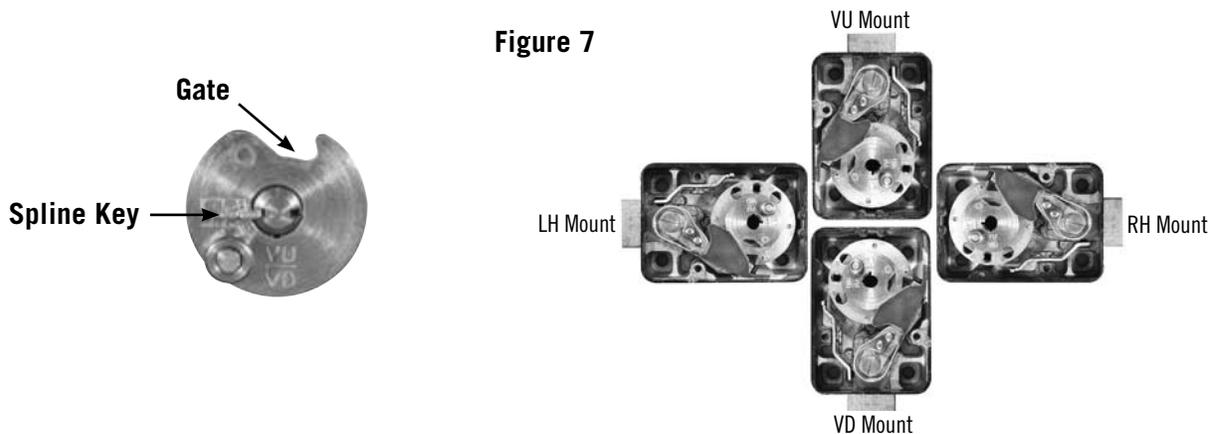

Figure 7
10. Insert the dial into the lock, but remember that you should not allow the cam to slide outward against the accelerator spring, possibly damaging it. Hold the drive cam in place, positioned for its gate (Figure 7) to receive the nose of the drop lever, and thread the dial into the cam until the dial stops.
5. **Lightly** grease the bearing surface of the wheel post and drive cam bearing. Replace the wheels and parts **exactly** as they were before disassembly. Reset the wheel pack torque to a value between 16 and 24 inch-ounces. Screw the dial/spindle assembly and cam together until snug. Hold the cam and turn the dial back one complete turn; then align the spline keyways. Insert the spline key. For proper key installation, see Figure 7 on page 3.